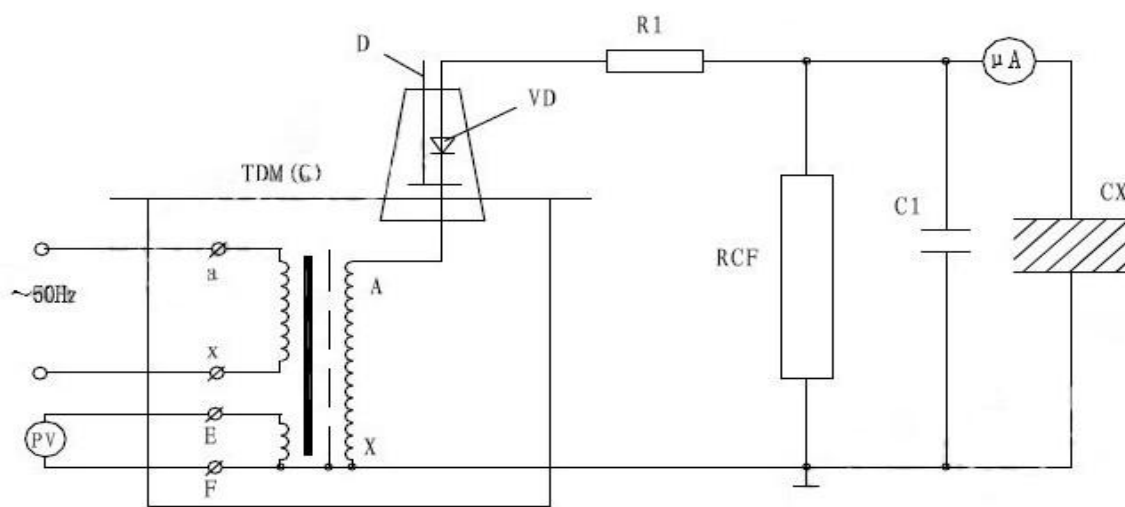

Figure 7
8. DC test or leakage test wiring diagram shown in Figure 7.